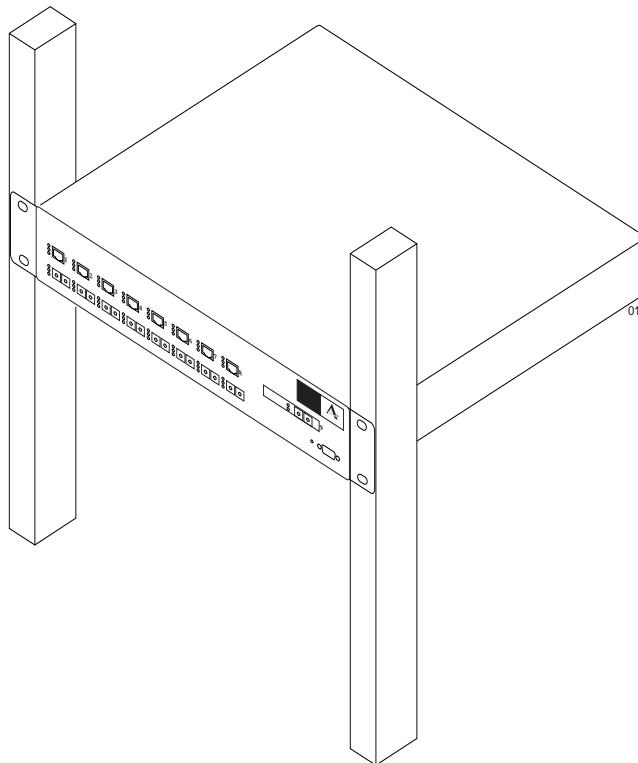

Figure 4 Rack-Mounted ACEdirector 4
2. Then, install the switch as shown in **Figure 4** using the appropriate screws for your rack-mount system (four 10-32, 12-24, M5X.8-6H, or M6X1-6H type screws).